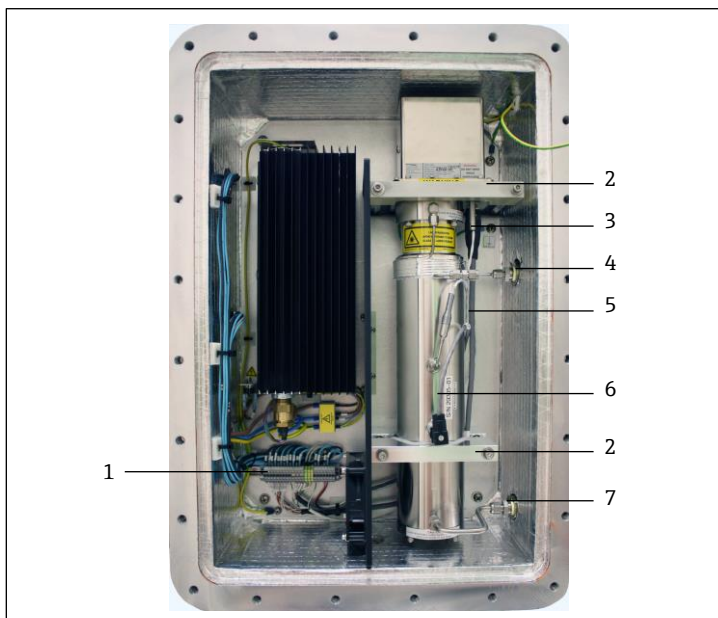

Fig 30. Cell cabinet interior
5. Open the door to the SCS enclosure. Refer to *Fig 30* → .